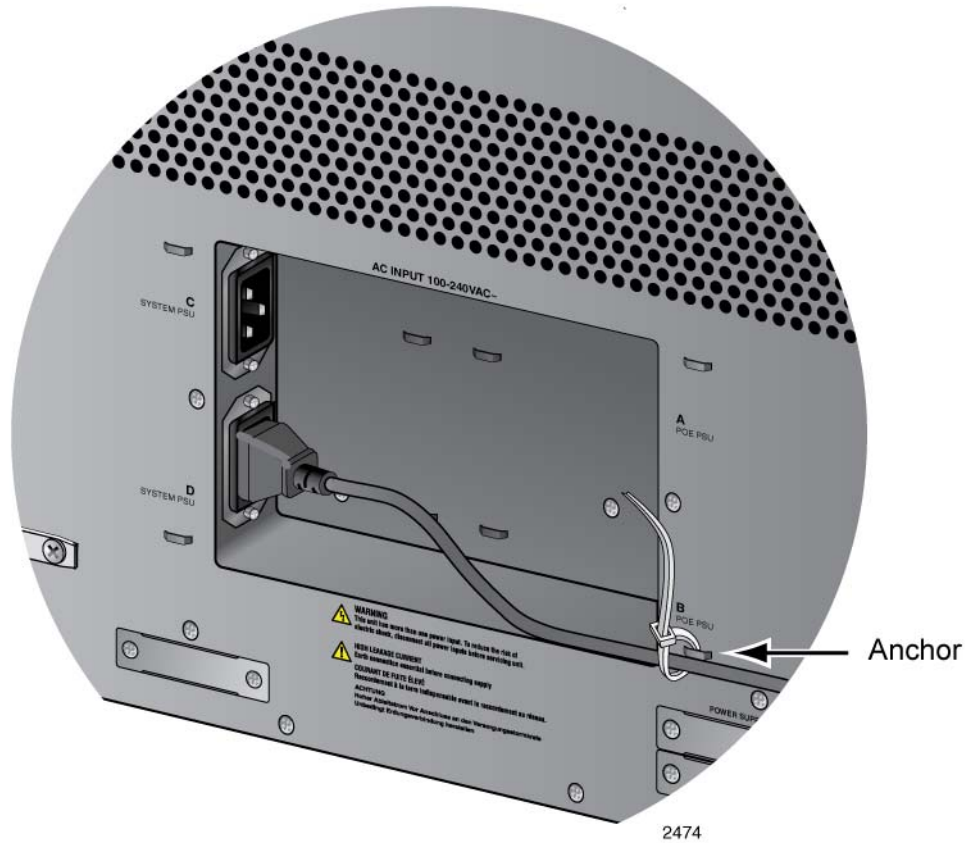

Figure 95. Securing the Power Cord for the AT-SBxPWRSYS1 AC Power Supply to an Anchor
3. Use the twist tie included with the power supply to secure the cord to an anchor on the chassis to protect it from being accidentally pulled out, as shown in Figure 95 on page 145.